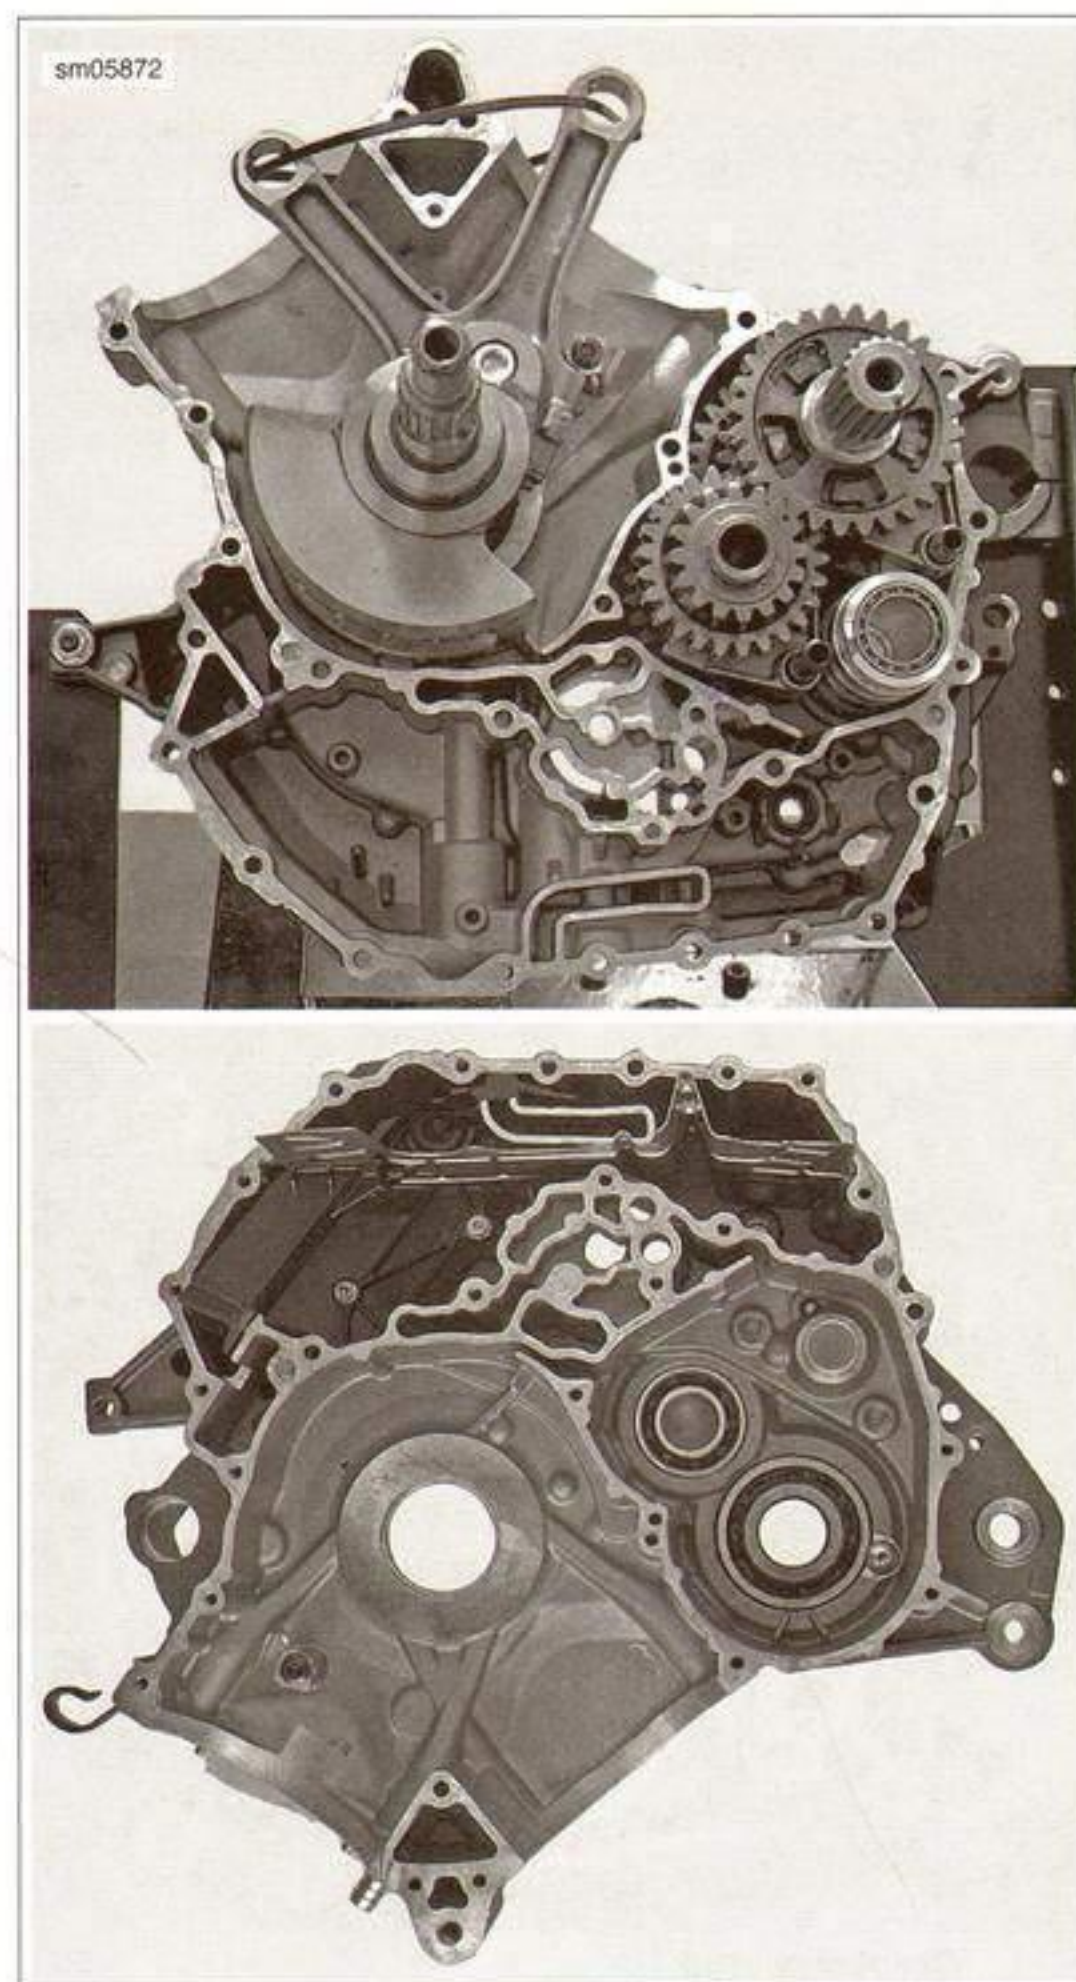

Figure 3-171. Split Crankcases
2. See Figure 3-171. Remove the left side crankcase from the right side crankcase.